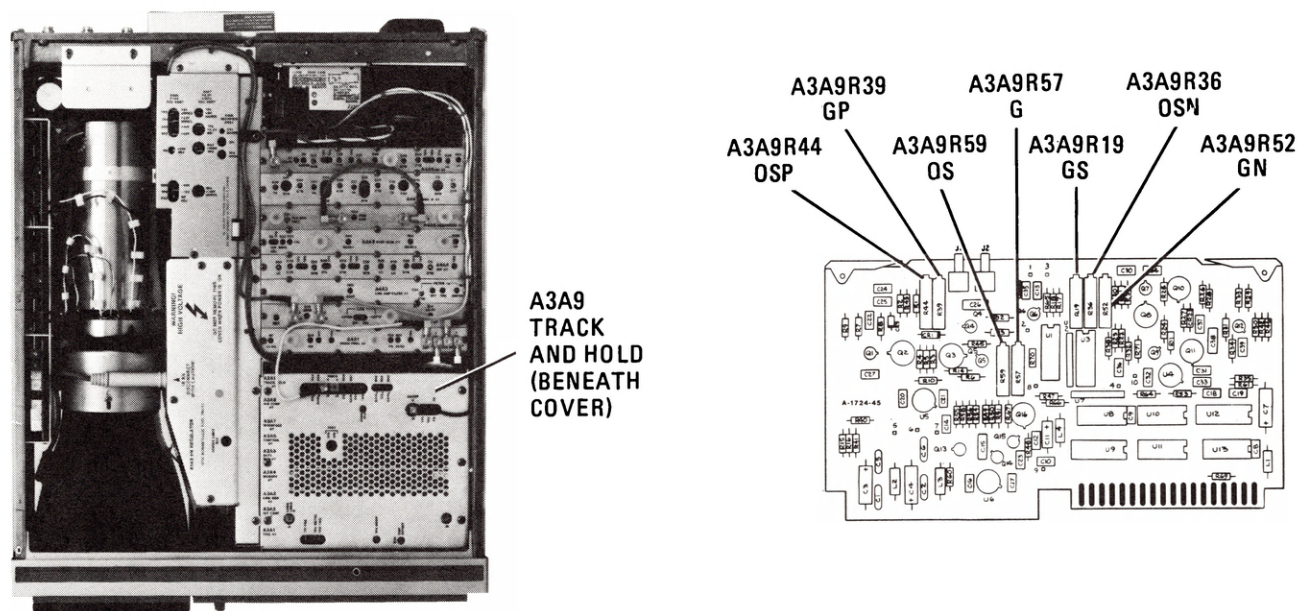

Figure 5-74. Location of Track and Hold Adjustments
9. Adjust A3A9R59 OS until Marker Δ level indication as indicated by CRT annotation flickers back and forth between .00 and .10 dB. Refer to Figure 5-74 for location of adjustment.
11. Adjust A3A9R44 OSP until Marker Δ level indication as indicated by CRT annotation flickers back and forth between .00 and .10 dB. Refer to Figure 5-74 for location of adjustment.
13. Adjust A3A9R36 OSN until Marker Δ level indication as indicated by CRT annotation flickers back and forth between .00 and .10 dB. Refer to Figure 5-74 for location of adjustment.
19. Adjust A3A9R39 GP for DVM indication of $+0.980 \text{ Vdc} \pm 0.001 \text{ Vdc}$. Refer to Figure 5-74 for location of adjustment.
22. Adjust A3A9R57 G for Marker Δ level indication as indicated by CRT annotation of $100 \text{ dB} \pm 0.1 \text{ dB}$. Refer to Figure 5-74 for location of adjustment.
24. Adjust A3A9R19 GS for Marker Δ level indication as indicated by CRT annotation of 100 dB ± 0.1 dB. Refer to Figure 5-74 for location of adjustment.
26. Adjust A3A9R52 GN for Marker Δ level indication as indicated by CRT annotation of 100 dB ± 0.1 dB. Refer to Figure 5-74 for location of adjustment.